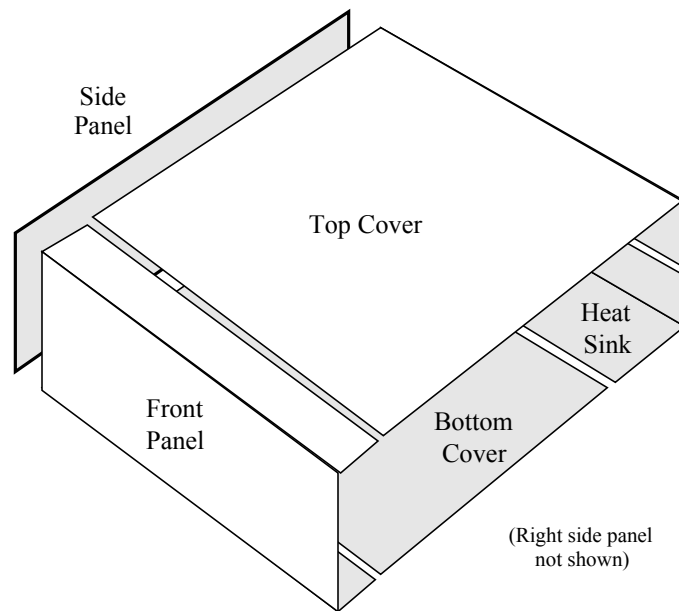

Figure 3-1
The K2 uses modular construction, both physically and electrically. This concept extends to the chassis (Figure 3-1). Any chassis element can be removed during assembly or troubleshooting. (Also see photos in Appendix D.)
- six chassis pieces (Figure 3-1)